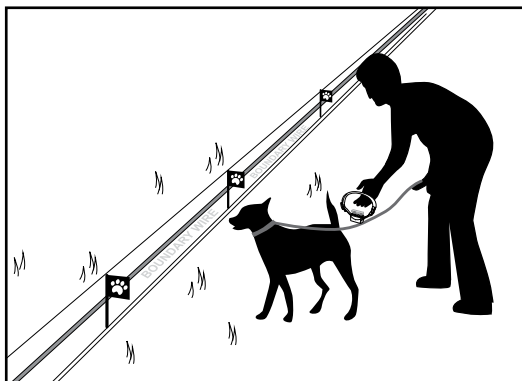

figure 32
1. Turn on the Receiver Collar and hold it in your hand. Hold the Receiver Collar by the fabric collar and do not touch the probes. Do not put the Receiver Collar on your dog. (fig. 32)